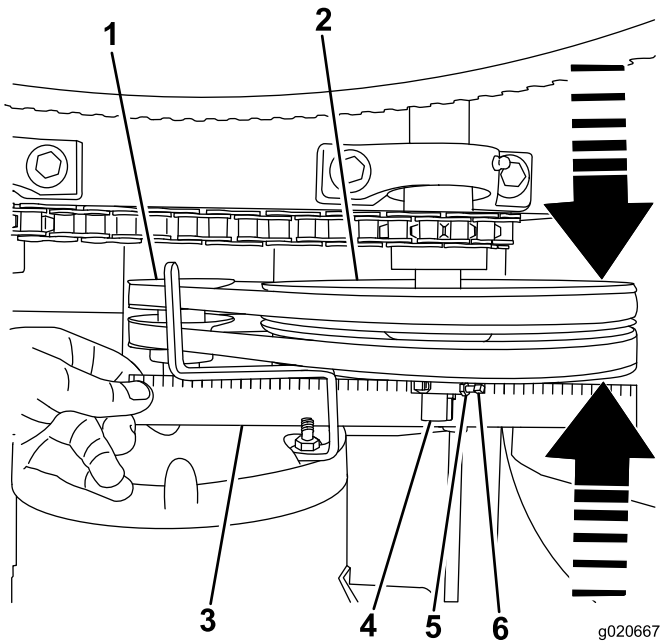

Figure 40
2. Place a straightedge across the face of the motor pulley and the idler pulley (Figure 40).
- B. Loosen the locknuts and setscrews that secure the idler pulley to the idler shaft (Figure 40).
- C. Using a soft-face mallet, tap the idler pulley forward or backward along the idler shaft until the motor pulley and the idler pulley are aligned to the straightedge (Figure 40).
- D. Tighten the setscrews and locknuts that secure the idler pulley to the idler shaft (Figure 40).